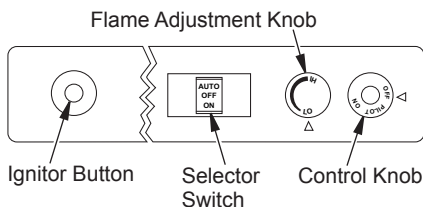

Figure 22 - Control Knob and Ignitor Button Location (Shown as Supplied, No Control Options)
5. Wait five (5) minutes to clear out any gas. Then smell for gas, including near the floor. If you smell gas, STOP! Follow "B" in the safety information, page 17. If you don't smell gas, go to the next step.
6. Press in and turn control knob counterclockwise  to the PILOT position. Press in control knob for five (5) seconds (see Figure 22).